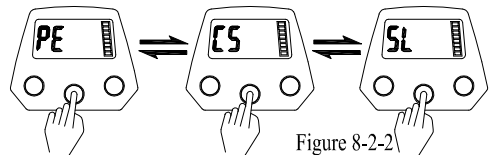

Figure 8-2-2
2. Press "MENU" in turn, a cycle of "PE", "CS", "SL" appears (Figure 8-2-2).